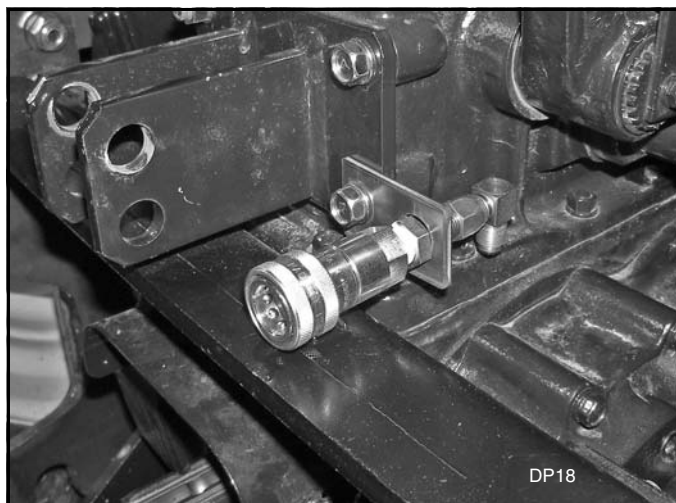

Figure 17. Bulkhead Bracket Installed
1. Connect bulkhead adapter (3) to bulkhead bracket (19) and secure using hex nut provided with adapter.
2. Attach female quick coupler (16) and elbow (13) to bulkhead bracket (19) as shown in Figure 17.
4. Place bulkhead bracket over top link bracket and secure into position using hardware previously removed. See Figure 17.